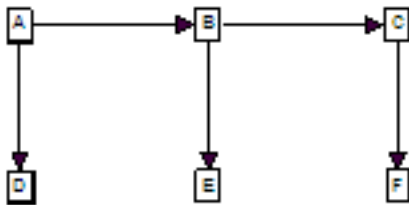

Figure 3
**Finding Loops In Spanning Trees.** Another way to think about this idea is to realize that a Spanning Tree is just a cave survey where one shot has been removed from each loop, effectively breaking that loop. That means that all you have to find a loop in a Spanning Tree is to put one of the “missing shots” back. For example, in the Figure 3 above, if you put the shot “D – E” back, you will have found the “ABED” loop. In other words, for every shot that is missing from the Spanning Tree there is one loop. Thus the “missing shot” is the key to each loop
To actually figure out which shots belong to the loop, you follow the “parents” of the missing shots back until they come to a common station. (The arrows in the example graphs show which stations are the parents.) For example, in Figure 3, you follow E back to B and B back to A. This defines one side of the loop. On the other side, you follow D back to A. You stop at A because it is the common parent of both sides loop.
In this example, we start at station A as before, but we explore the connections to B and C before moving on. When we do move on to B, we explore all its connections too and continue until we run out of stations that have not been visited. You will notice that this gives the same spanning tree as Figure 3, which we concluded, gives superior loops. So for our purposes, BSF spanning trees give superior results.